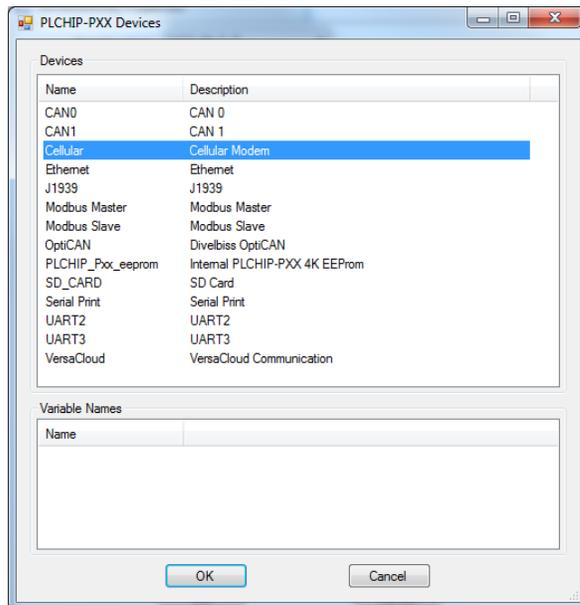

Figure 2-40 - PLCHIP-PXX Devices - Cellular
4. Click / select **Cellular** (highlight). Refer to Figure 2-40. Click **OK**. The GPS Properties window will open identifying UART1 as the interface for the Cellular Modem. Click **OK**.